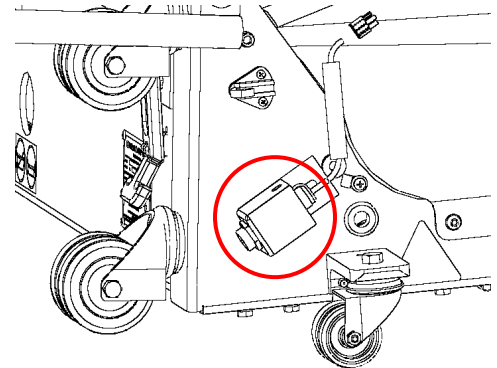

Figure 4-32
2. Locate the sensor and bracket over the right rear caster wheel, as shown in Figure 4-32.